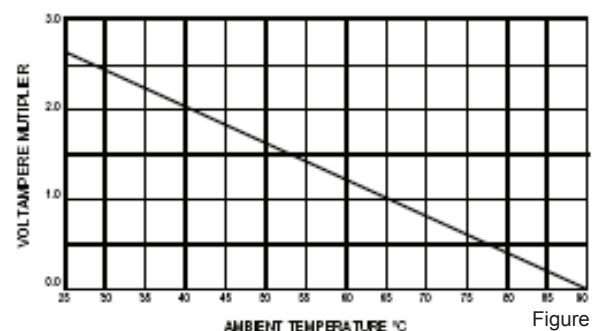

Figure 3
4. Check that your application's volt-amperes is not more than the capacitor's VA capability. The VA capability is the max VA rating times the Volt-Ampere multiplier from Figure 2 (Current Pulse Width) and that times the Volt-Ampere Multiplier from Figure 3 (Ambient Temperature). See the following section for more on using volt-ampere multipliers